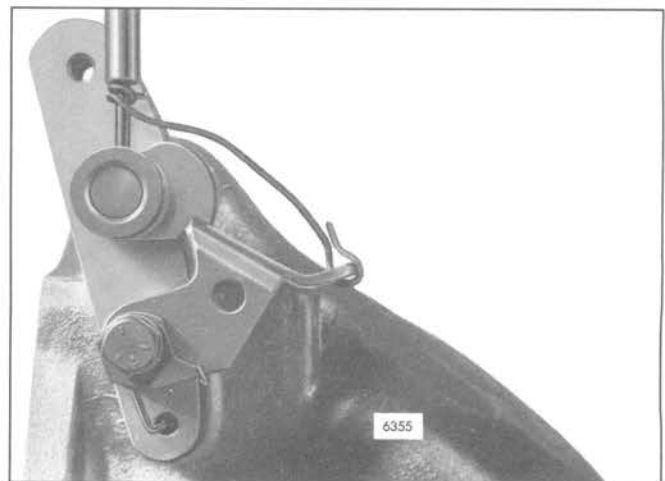

Fig. 6 – Cam and Latch Wired to Prevent Movement
7. Align the notch on the cam with the latch and hold in this position with a piece of stiff wire (Fig. 6).